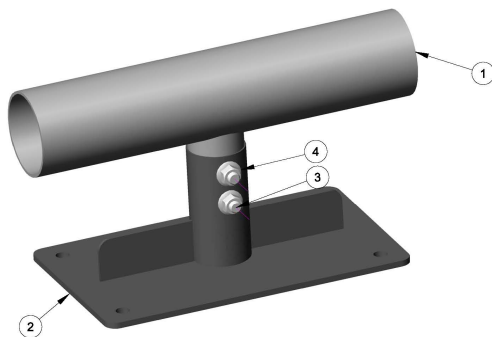

Figure 1. Hoist carrier mount installation.
1. Using detail from production drawings, hang welded drop pipe (item 1) from trusses. Make sure drop pipe is plum.
2. Begin installing carrier mount brackets (item 2) on the welded drop pipe (item 1) using the provided ½"-13 x 3" hex head bolts (item 3) and ½"-13 whizlock nuts (item 4). Be sure to note on the production drawing which drop has the carrier mount for the hoist, as this is different from the others. Please refer to figures 1 and 2 for illustrations of each.